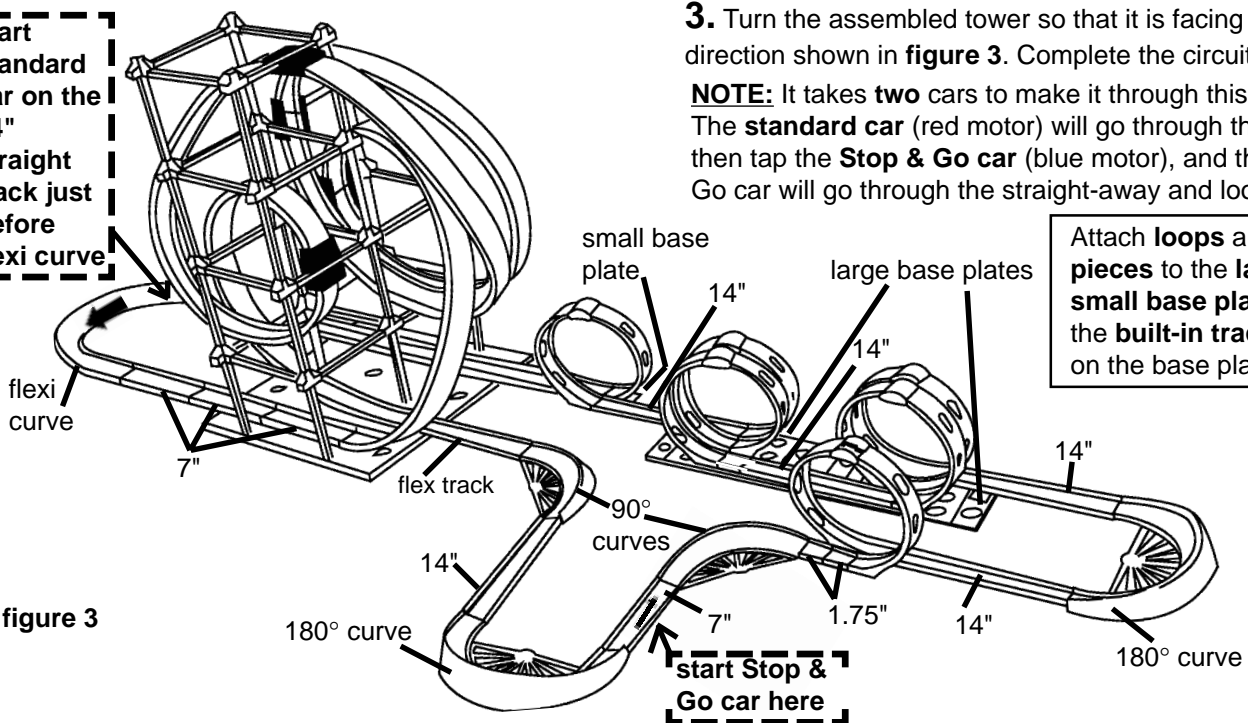

figure 3
3. Turn the assembled tower so that it is facing in the direction shown in figure 3. Complete the circuit as shown.